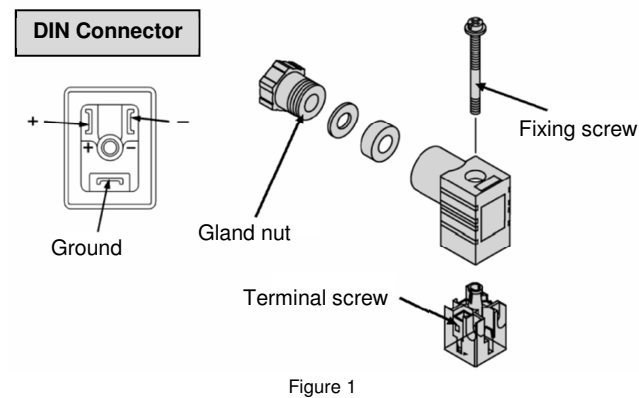

Figure 1
- Connections for DIN connector are shown in Figure 1: